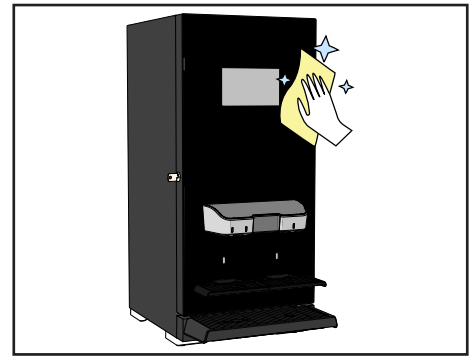

Figure 30.
18. Clean the outside of the machine with a slightly damp cloth (see Figure 30 and Figure 31).